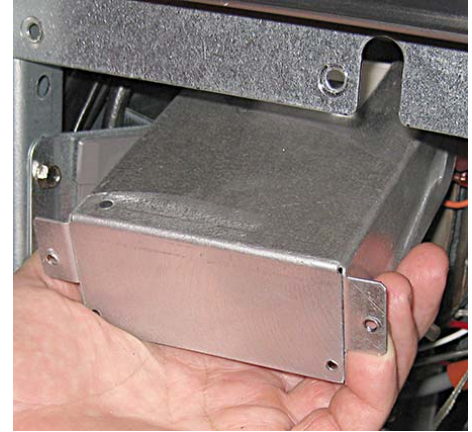

Figure 8
8. Remove the module by pushing back and then lowering (see Figure 8).